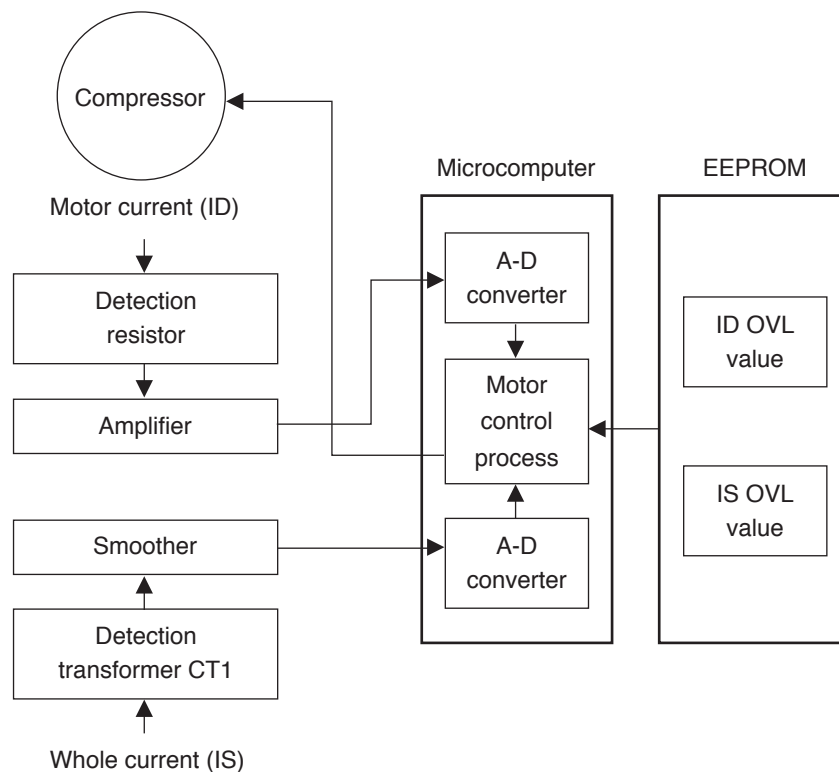
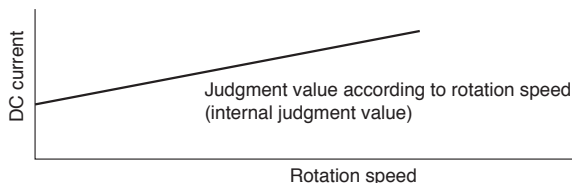

Fig. 6-1 Overload Control System
Fig. 6-4
Fig.6-1 shows the overload control system configuration and Fig. 6-4 is a characteristic diagram on overload judgement values. There are two types of control which has named IS OVL and ID OVL.
Fig. 6-4 shows the rotation speed control. When the voltage at pin ⑩ of the microcomputer exceeds the set value, the microcomputer decreases the rotation speed of the compressor and reduces the load.